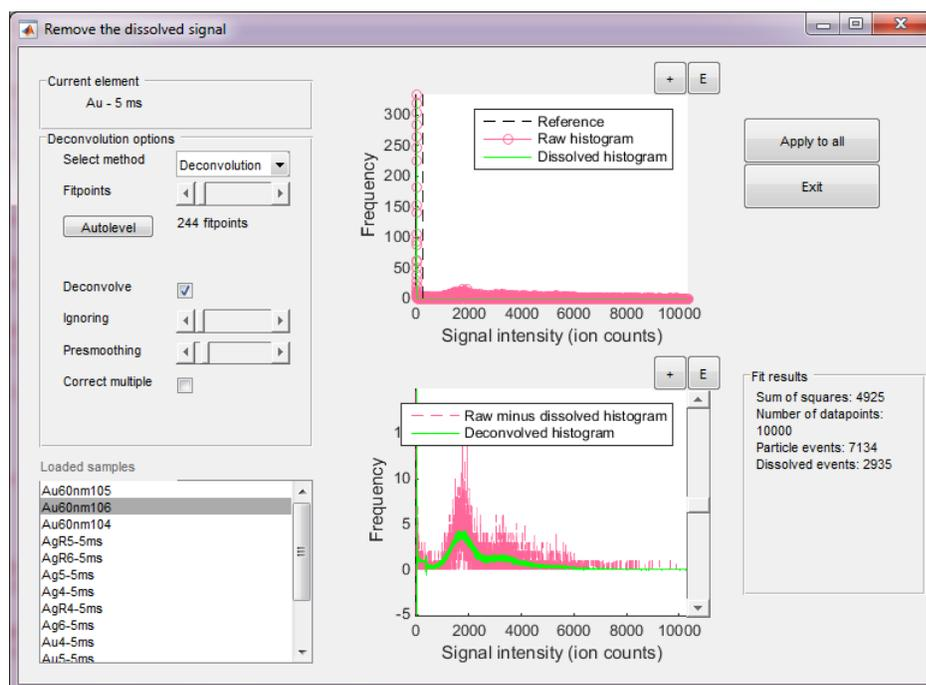

Figure 27 The deconvolution tool using the deconvolution method.
- **“Deconvolve”**: Regardless of whether this box is ticked, the fitted dissolved curve is always subtracted from the combined dissolved – nanoparticulate signal (The red dotted curve in Figure 27). However, this histogram still contains components from the dissolved noise (see 4). The deconvolve option allows to mathematically deconvolve this noise out of the red dotted curve in
Figure 27 resulting in the green curve. It is the result of mathematical deconvolution of the dissolved signal fitted in the upper graph from the subtracted green curve in the bottom graph (total signal – dissolved signal). Deconvolution is a complex process that not always results in meaningful results. For instance, it is required that the information being deconvolved (i.e. the dissolved fit) contains less information (i.e. has a lower bin length) than the histogram from which deconvolution occurs (i.e. the raw histogram minus the dissolved fit). If this condition is not satisfied, deconvolution simply returns the same information as in the red dotted curve again and only the green curve is visible. There are, however, two slider bars to manipulate this process to some extent.
- **“Ignoring”**: The signal intensity level below which the signal should be ignored: the ignore factor. The signals below this value are removed from the fitted dissolved curve before it is used in the deconvolution process. Very often, the ignore factor needs to be increased above the minimum level (where all the information in the dissolved fit is attempted to be used) for deconvolution to resort in some effect. The largest effect of deconvolution occurs with NPs with relatively low sizes4. Such histograms do not contain much information to start with so large, dissolved fits need to be shed of the relatively unimportant high signal values that often have a very low signal frequency. This process reduces the length of the bin of the dissolved signal so that it may become lower than the bin length of the NP data and thus be deconvolved from data such as the the red dotted line. In this case, as shown in Figure 27, both the red dotted line and the green curve are visible, because deconvolution was successful. Note, however, that the ignoring factor should be kept as low as possible (i.e. using the maximum of information possible) to arrive at accurate results. If the ignore factor needs to be set very high for deconvolution to work, it may be a better option to not use the deconvolution option at all.